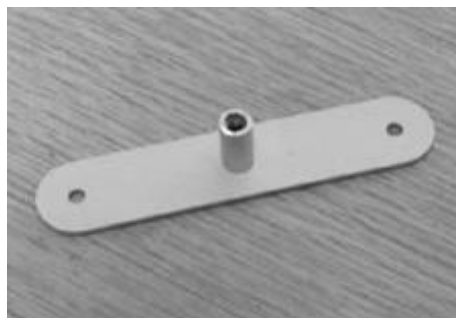

Figure 134 Batten bracket
- q) Lace the rest of the fuselage starting from the rear and tightening as you move to the front, figure 134.